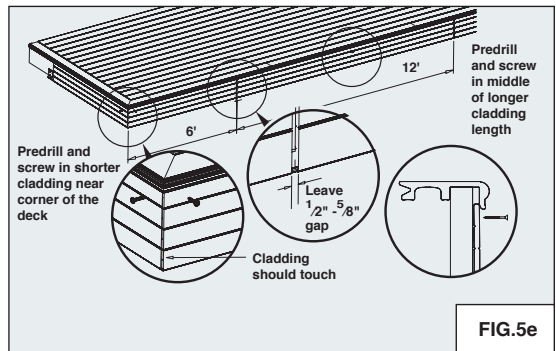

FIG.5e
- Pre-drill single ⅜" pilot holes in each length of cladding just under the bullnose lip as shown. The shorter cladding length at the corners of a deck should be predrilled a few inches away from the corner, while the longer cladding lengths in the middle of the deck should be predrilled in the middle of the length. Secure the cladding to the structure with single 1½" screws. The cladding at the corner of the deck should touch, leaving no gap. Expansion gaps between adjacent lengths of cladding are required as shown. (REFER TO FIG.5e)